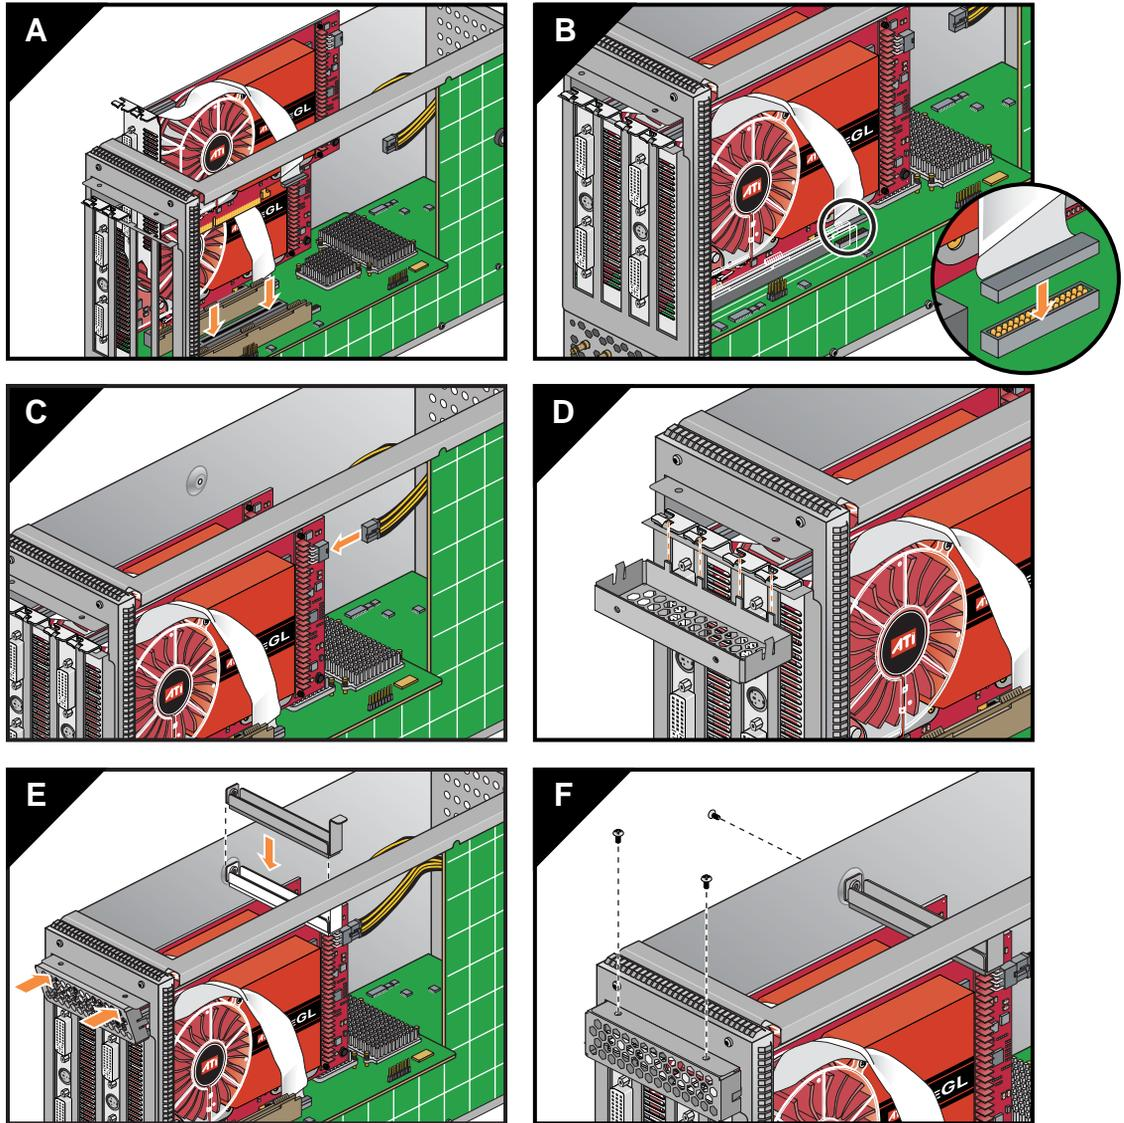

Figure 1-8 Replacing a Graphics Card in the Double-Wide (I4E) Blade
7. Reverse these procedures to install a new 3D graphics card, see Figure 1-8 on page 11.